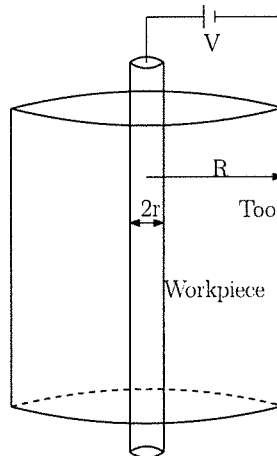

Fig 4: Question 8
8. Electrochemical machining (ECM) process was used to reduce the diameter of a copper cylindrical rod of radius r . A hollow cylinder made of iron with an internal radius of R ($R > r$) was used as the tool. A potential difference of V was applied between the tool and the workpiece (See Fig. 4). A NaNO_3 solution with an electrolytic conductivity, k_e was used. In order to ensure uniform machining, the tool and the workpiece were placed coaxially, submerged in a bath of the electrolyte. Derive an expression for the instantaneous rate of change of the workpiece radius, dr/dt .